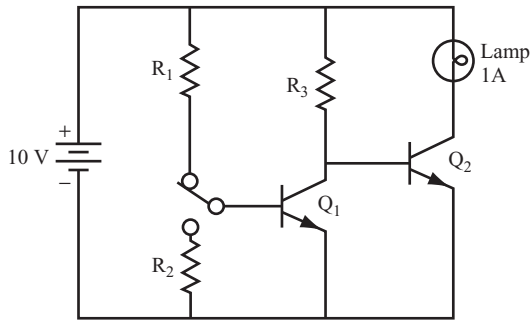

FIGURE 4.18
Continue to work with the same circuit shown in Figure 4.18. Use the following values:
**23** Following the same procedure, and using the same circuit shown in Figure 4.18, work through this example. Assume that you are using a 28-volt lamp that draws 560 mA, and that  $\beta_2 = 10$  and  $\beta_1 = 100$ .